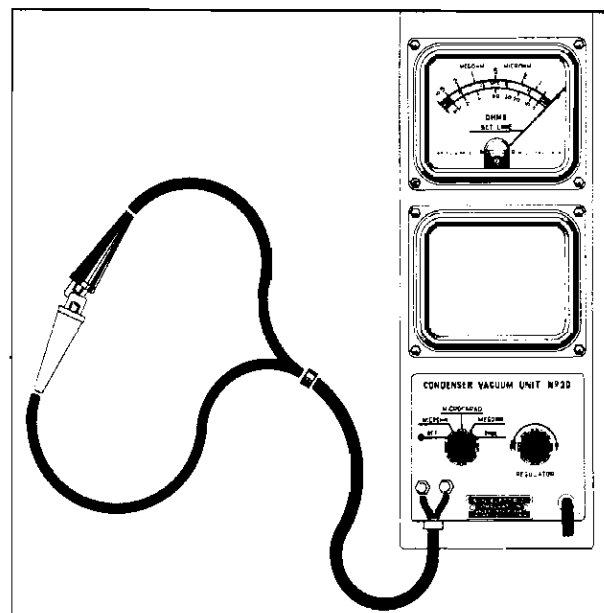

Fig. 11-26 Calibrating Condenser Test Meter
1. Connect the Condenser Tester wire clips together, Fig. 11-26.